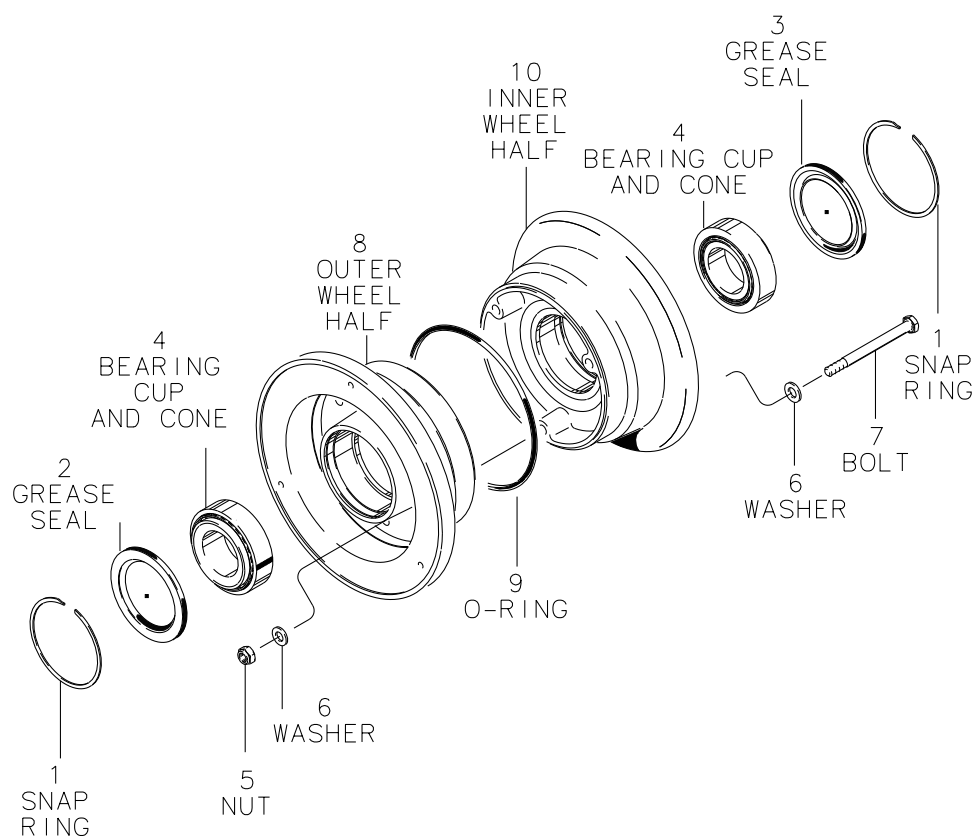

Figure 3 - Typical Nose/Tail Wheel Assembly
Wheels are made from either aluminum castings, magnesium castings, or aluminum forgings. The wheel is of the divided type, incorporating inner wheel half (10) and outer wheel half (8), Ref. Figure 3, which are fastened together with tie bolts (7), washers (6), and nuts (5). An o-ring (9) fitted between the two wheel halves provides the air seal for wheels designed to operate with tubeless tires. The wheel rotates on two tapered roller bearings (4) which seat in bearing cups, shrink fitted into the hubs. Grease seals (2) and (3) provide protection and lubricant retention for the bearings. All new product shipped will have the bearings packed with the appropriate grease (refer to Section 300 Off-Aircraft Maintenance, paragraph 3.A. Bearing Grease). Hubcaps, when used, are secured to the outboard wheel half by a snap ring (1) or three attachment screws. Full wheel covers are fastened by three attachment screws.